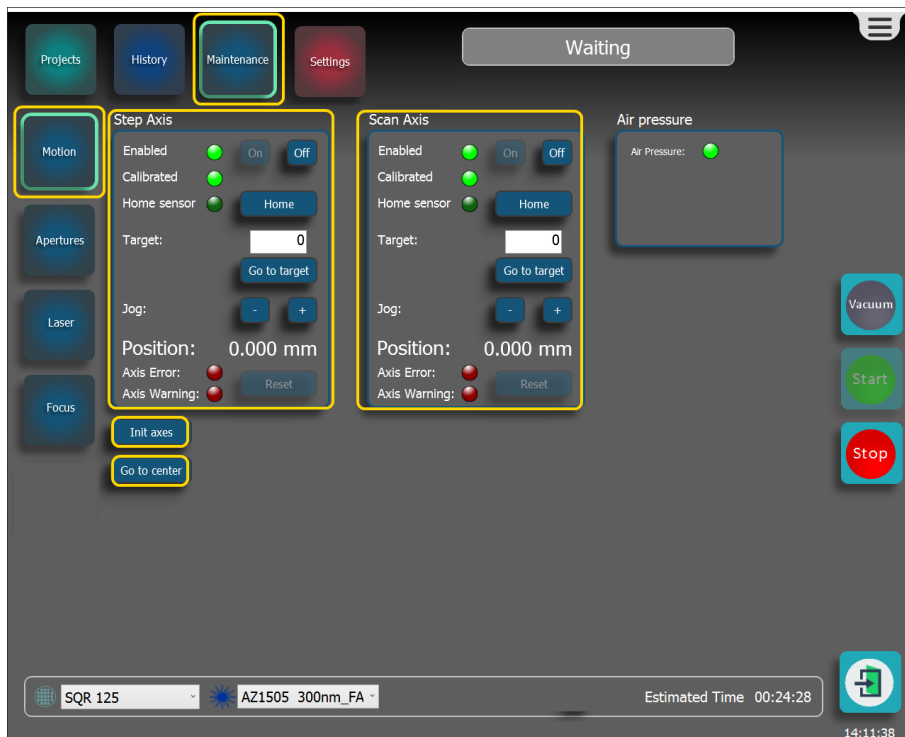

Figure 4-4 Motion control window
1. Select **Maintenance** in the top bar, see Figure 4-4.